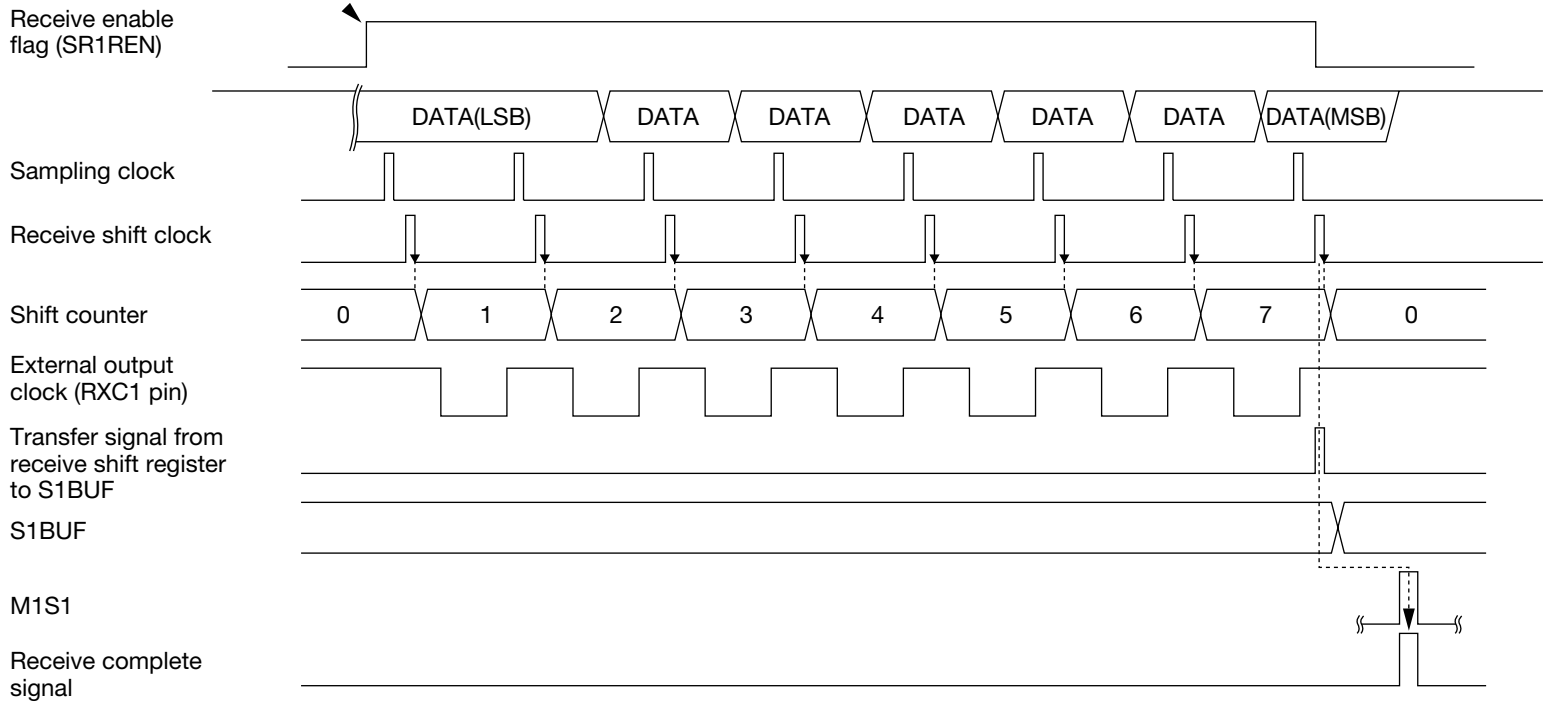

Figure 12-16 Reception Timing Diagram (Synchronous Master Mode)
- Figure 12-16 shows the timing diagram of operation during master mode reception.
The clock pulse from the baud rate generator (timer 4) is divided by 4 to generate the external output clock. The 3rd pulse of the 1/4 divider (value 2 of the baud rate (1/4) counter in figure 12-16) becomes the sampling clock for the receive data input pin (RXD1). The 4th pulse (value 3 of the baud rate (1/4) counter in figure 12-16) becomes the receive shift clock.